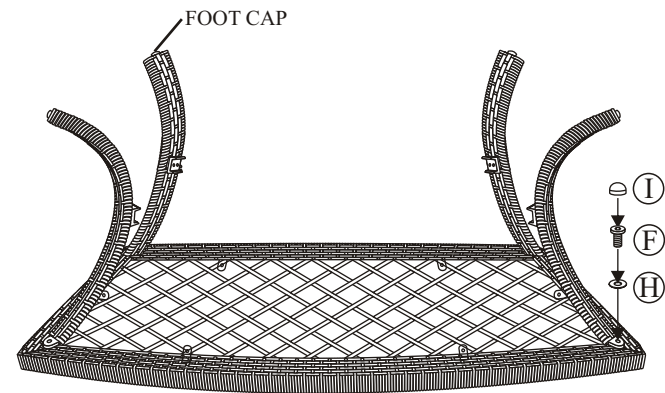

Figure 1
Step 2: Place the table rim (without glass) upside down on a flat, non-abrasive surface. Attach the table leg to the rim by using a 1/4"x25 mm bolt and a washer as shown in *Figure 1*. Guide the bolt through the hole in the table leg, into the pre-drilled hole in the table rim. **Do not tighten completely.** Some adjustments may be necessary to ensure proper alignment of the table legs. Repeat for the other three table legs.